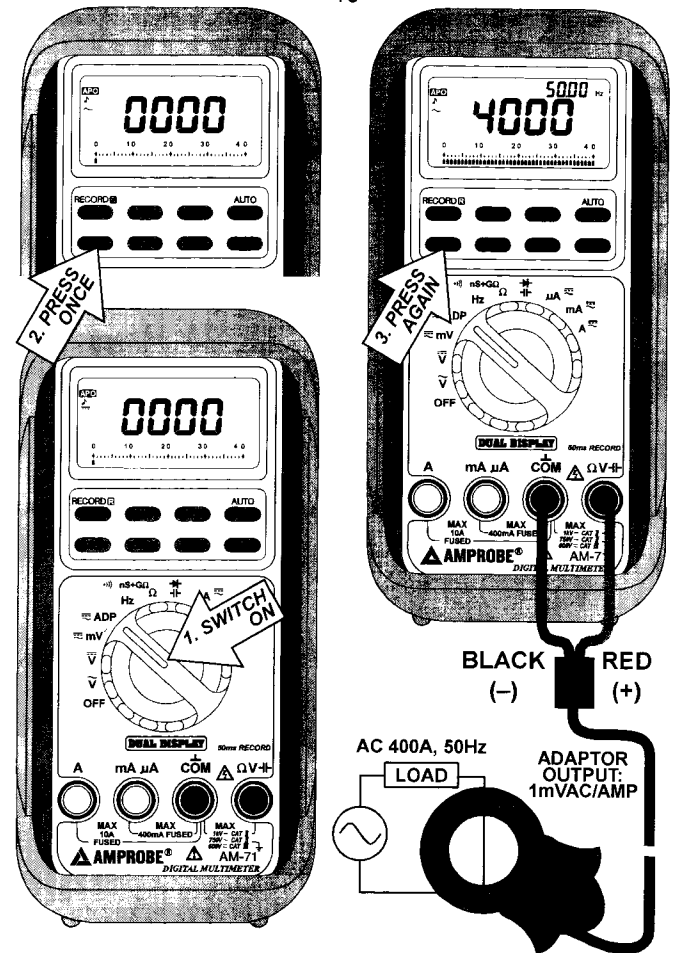

FIG 6. DC, AC, AC+Hz ADAPTOR FUNCTIONS
- 3) Insert output plug of the adaptor with positive (+) into $\Omega V-H$ jack and the negative (-) into **COM** input jack, see **FIG 6**